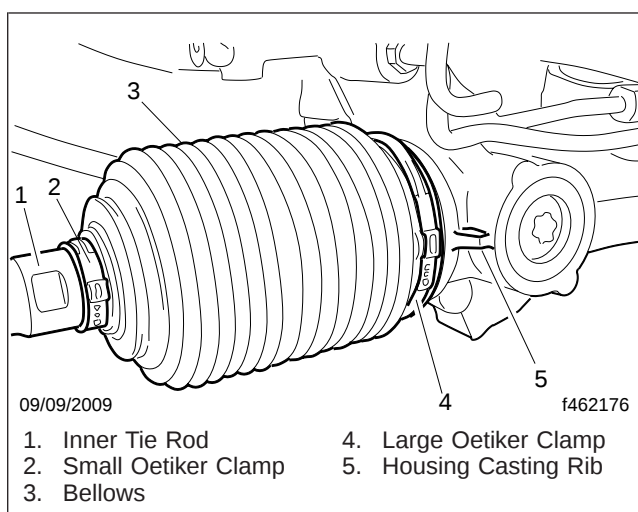

Fig. 3, Oetiker Clamp Alignment
- 13.2 Ensure the large Oetiker clamp is properly seated in the clamp groove on the bellows. Align the large Oetiker clamp ear with the small clamp ear. Both clamp ears should be aligned with the rack housing casting rib. See Fig. 3.